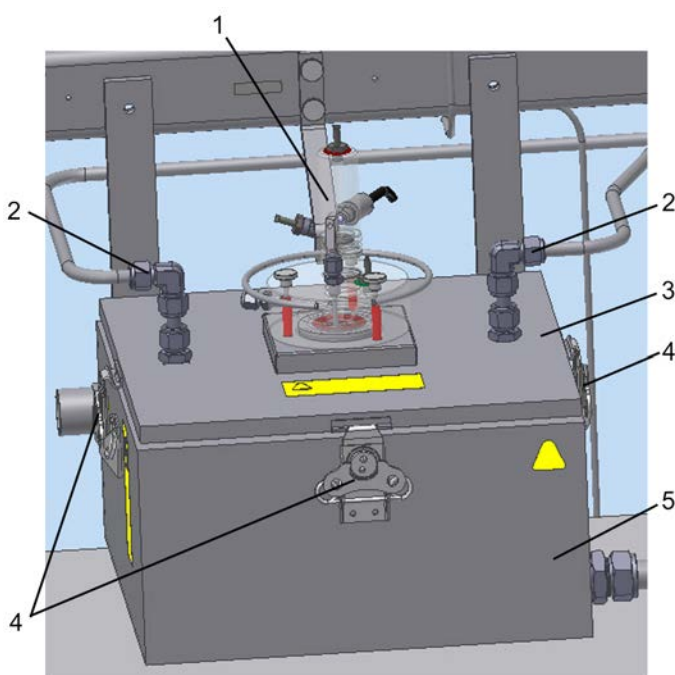

Fig. 10.20: Measuring cell housing
- Lift the cover (3) gently. Separate the connecting cable from the measuring cell housing by disconnecting the connector at the bottom of the measuring cell housing.
- Prepare a cover (3 in Fig. 10.20).